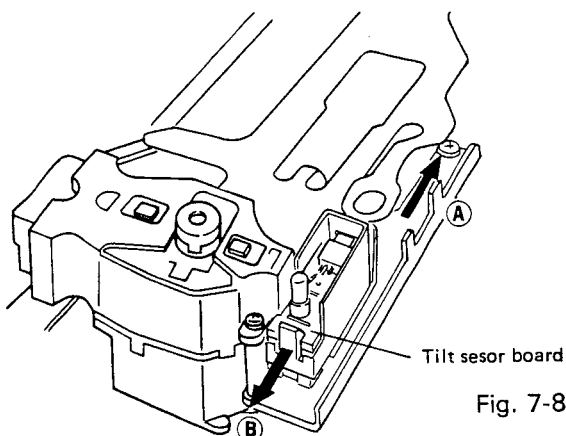

Fig. 7-8
**7.7 REMOVING THE TILT SENSOR (Fig. 7-8)**